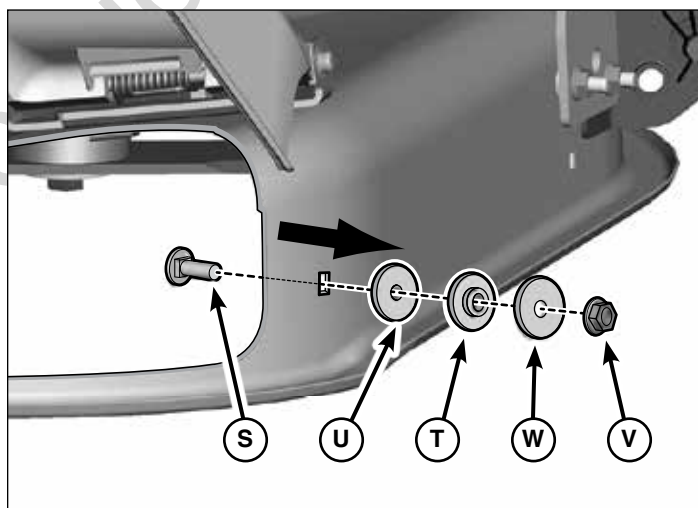

Figure 11
1. On the inside of the deck, install carriage bolt (**S**, Figure 11). Attach the washer (**U**), spacer (**T**), washer (**W**) and the flange locknut (**V**).